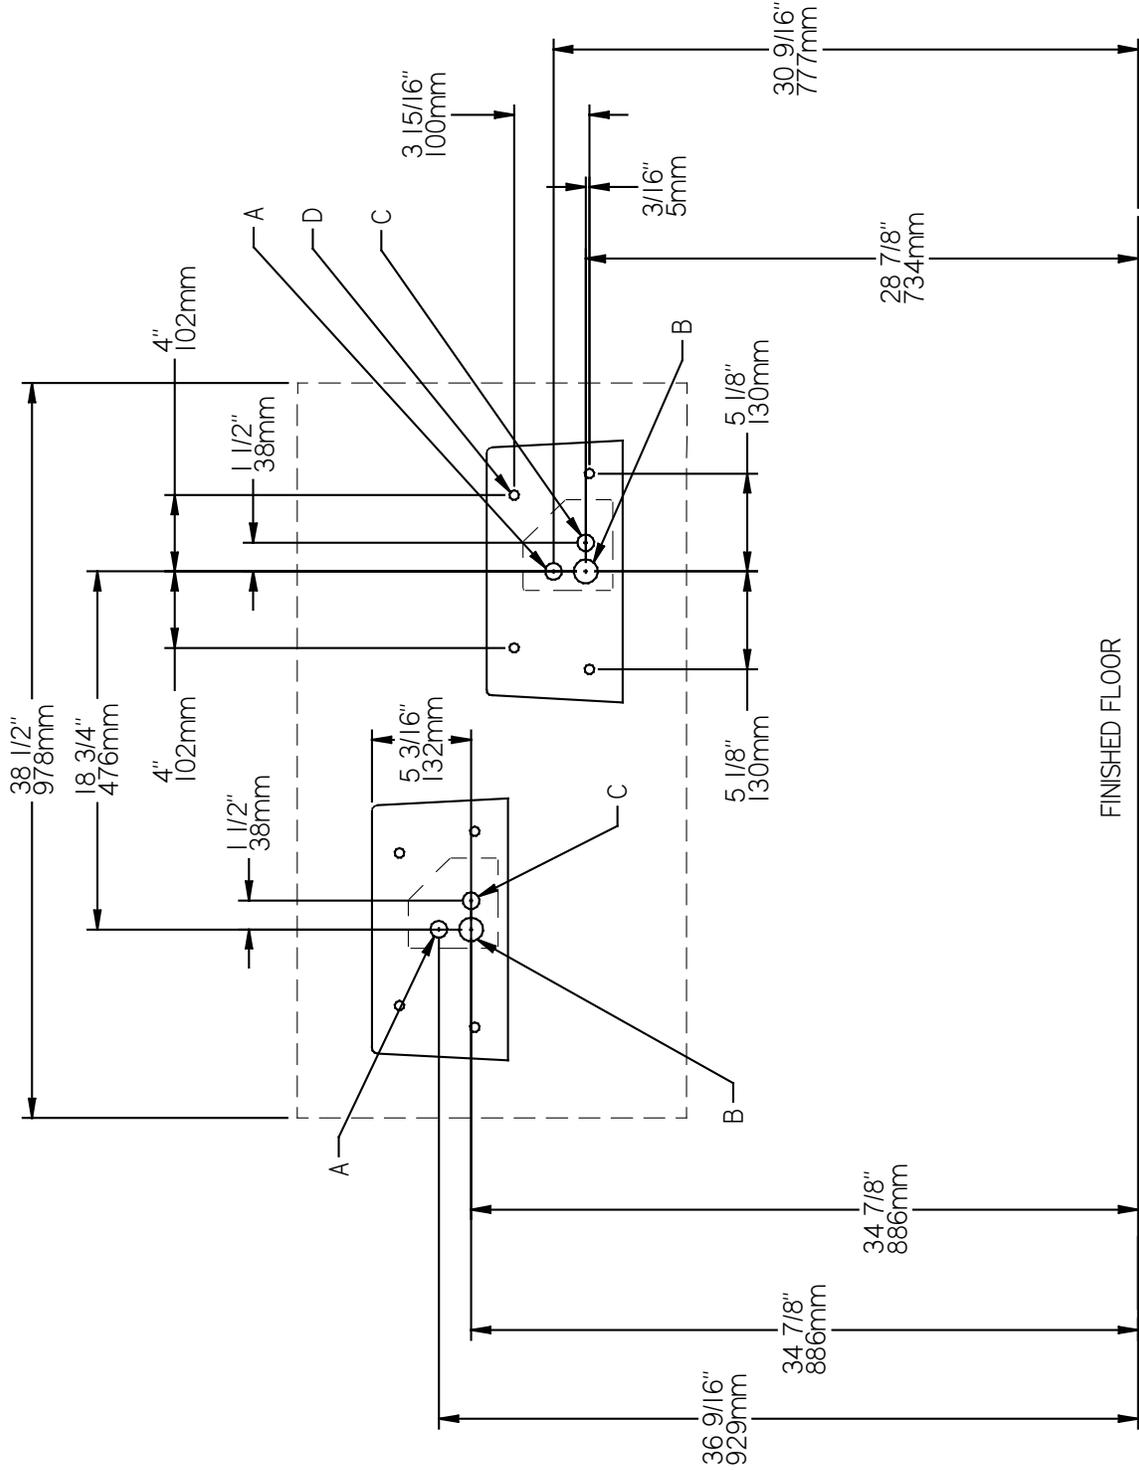

FIG. 1
5. Connect drain and water supply lines to the freeze resistant fountain. Refer to Figure 1 or 2 for component positions. In-line strainer must be used on the inlet water line. See Figure 5.